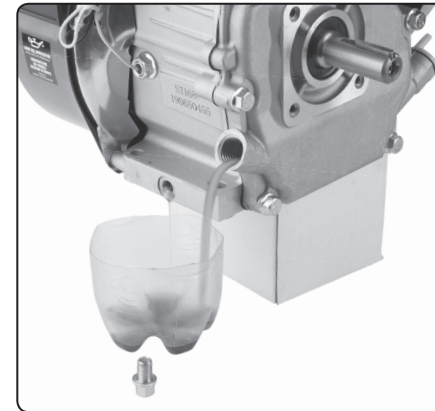

Fig. 9. illustrative picture of positioning of the engine for draining oil
1. To drain oil from the oil pan, position the engine higher so that the oil can flow out into a container prepared in advance (see fig. 9 - this is only an illustrative picture showing a method for positioning the machine for draining oil from the engine's oil pan into a prepared container).